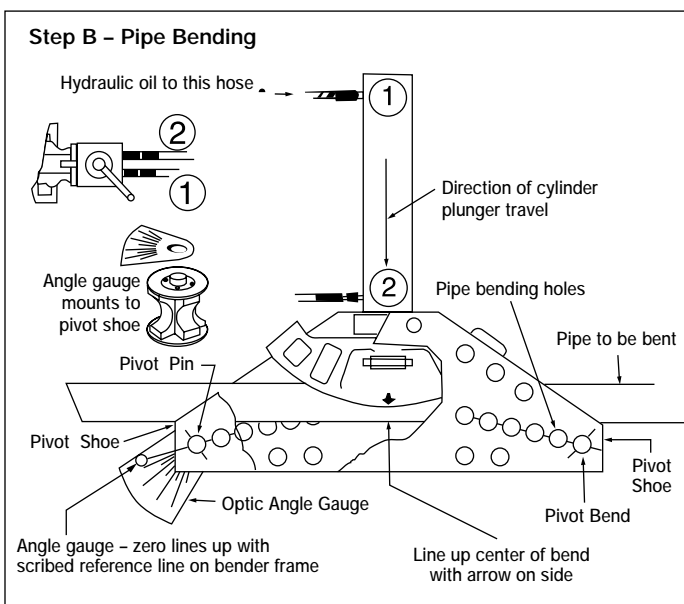

Figure 3, Pipe Bending
2. Attach Optic Angle Gauge to the top of Pivot Shoe, as shown in Figure 3. A locator pin on the gauge mates with a hole in the pivot shoe.